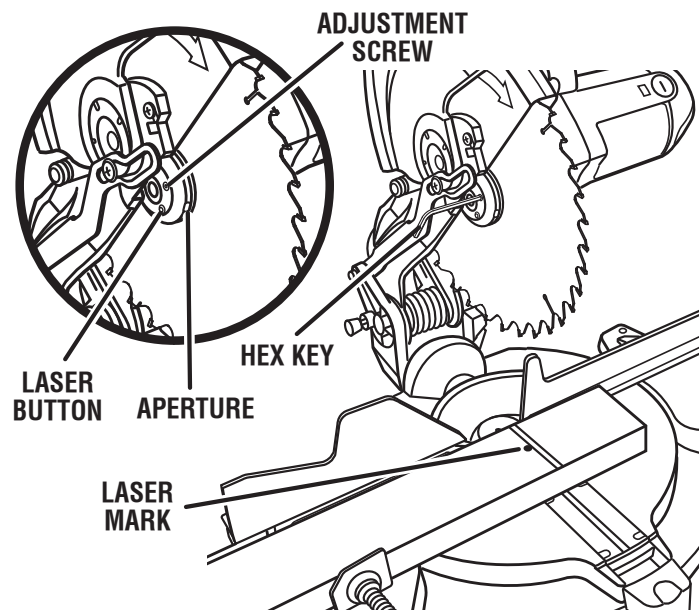

Fig. 37
See Figure 37.
- Rotate the blade by hand until you can push and hold the laser button and the laser is near the center of the workpiece as shown in figure 37.
- To adjust the laser, turn the adjustment screw counter-clockwise or clockwise using the hex key (1/16 in.) provided.